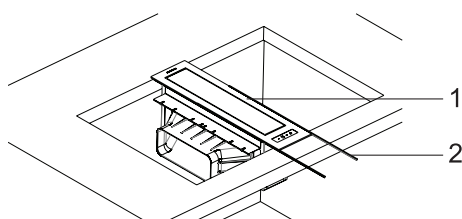

Fig. 27
8. → Insert the rubber profiles on the right and left long edges (Fig. 27).